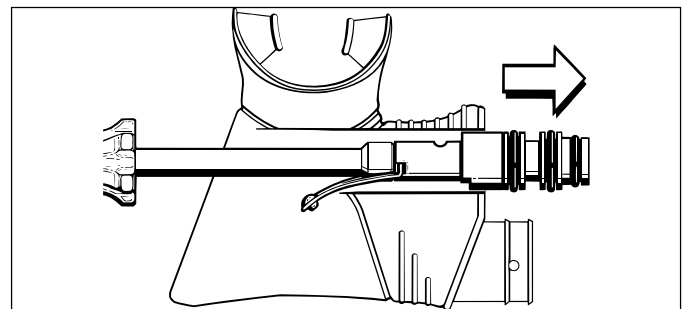

Figure 3
1.1.8 While holding the body secure, place a 1/4" nut driver over the lock nut(44) of the valve poppet, and slowly press inward until the valve begins to exit the opposite end of the body (see Fig. 3). Be careful to avoid pressing it completely out.